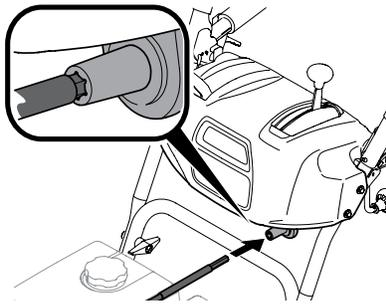

Figure 2-30
- Units with Crank Chute Control - Insert hex end of flex shaft into chute control rod coupling under dash panel. See Figure 2-30.